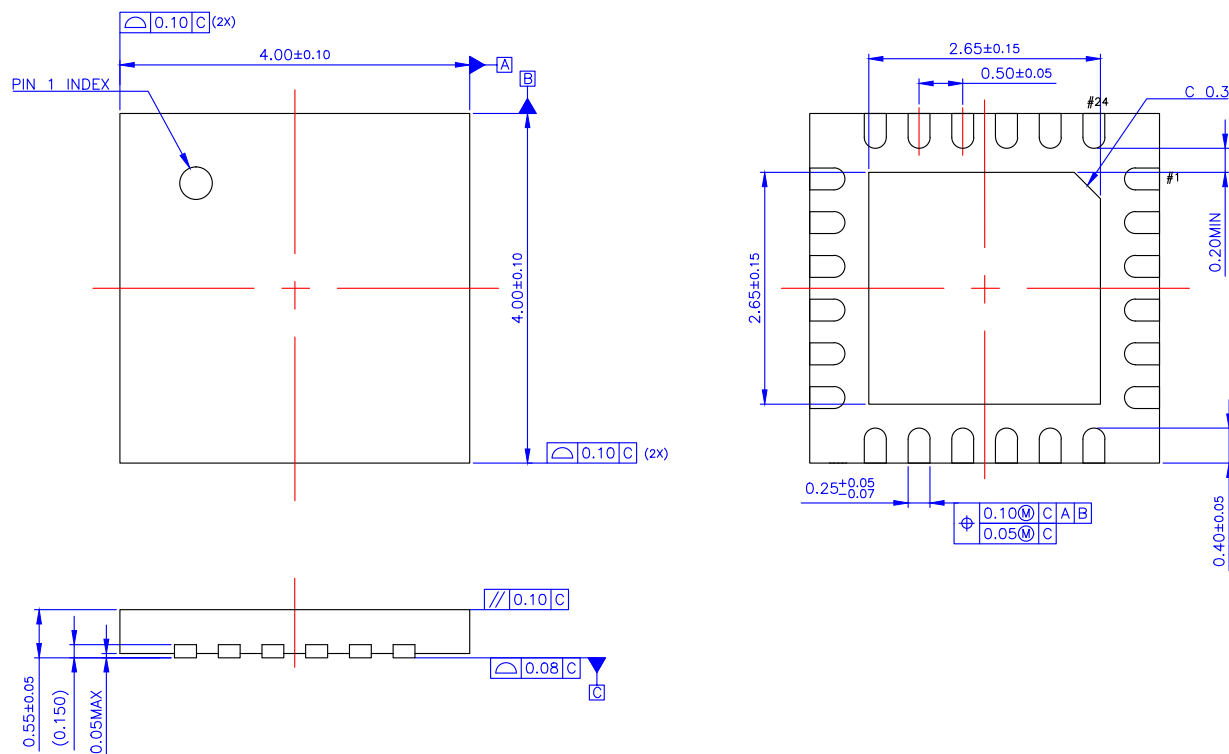

Figure 94. Thin 24-Pin QFN Package Mechanical Data
► **Note:** The thin (0.55mm) QFN package shown in Figure 94 is designated by a *K* in the 12th character of the part number listed in the Ordering Information table; see Table 101 on page 312.